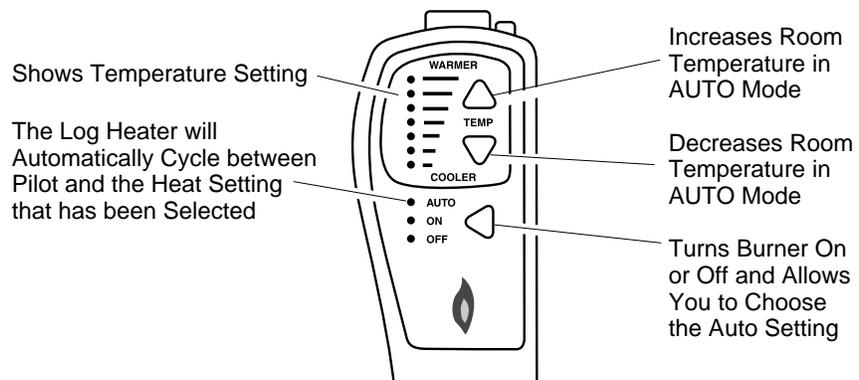

Figure 50 - Hand-Held Thermostat Remote Control Unit Selections (GHRCTA Only)
- 2b. Press the **AUTO/ON/OFF** button on the hand-held remote control (see Figure 50). The lights to the left of the button will show **AUTO**, **ON**, or **OFF**.